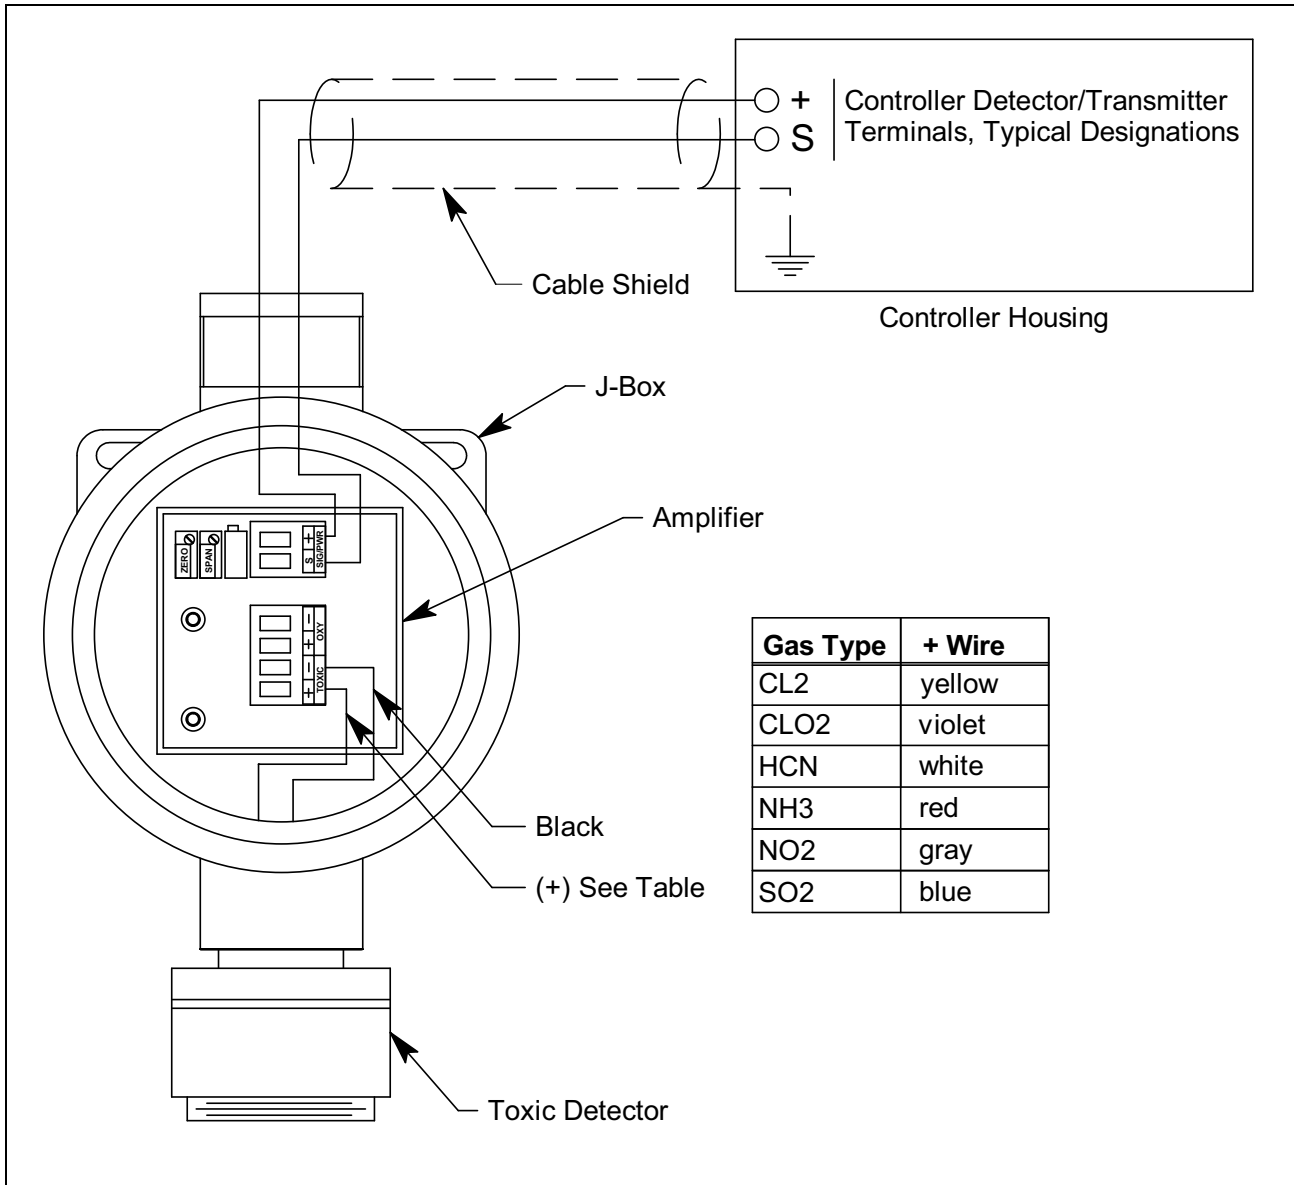

Figure 5: Wiring the Toxic Gas Transmitter to a Controller
The detector housing body protects the electronic components within the housing. Use the mounting threads at the top of the housing to screw the toxic detector into the 3/4 NPT hub on the bottom of the junction box. Two wires extend from the top of the detector housing body. Use these wires to connect the toxic detector to the amplifier. One of the wires is black and one of the wires is color-coded depending on the detector type. See Figure 5 on page 12 for the color code assignments.
4. The detector leads are factory wired. Verify that the detector leads are wired to the amplifier's detector terminal strip as shown in Figure 5.
7. Pull out the controller terminal strip, and connect the two wires to the terminal strip as follows (see Figure 5).
11. Connect the wires to the applicable detector/transmitter terminal strip at the controller as shown in Figure 5.
8. Connect the detector leads to the appropriate detector terminal strip terminals. Connect the black wire to the terminal labeled “TOXIC -” and the color coded wire to the terminal labeled “TOXIC +”. See Figure 5 on page 12 for the detector wiring connections to the amplifier and the detector wire color coding.
8. Install the detector and controller terminal strips into their sockets on the new amplifier as shown in Figure 5 on page 12. If controller leads or detector leads were removed during this procedure, refer to Figure 5 on page 12 for the detector and amplifier connections.